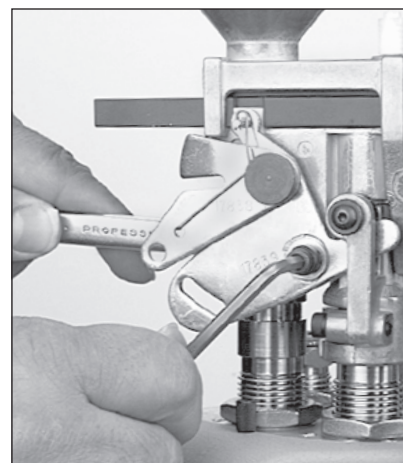

FIG 196
3. Using a 5/32" Allen wrench, loosen the bellcrank screw just enough to remove the white cube from the side of the powder bar **FIG 196**.